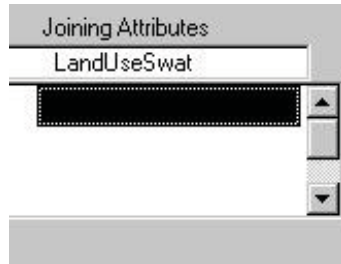

Figure 6.16
- a. To manually assign land cover/plant codes, double-click in the *LandUseSwat* spot in the *Joining Attributes* box (Figure 6.16).